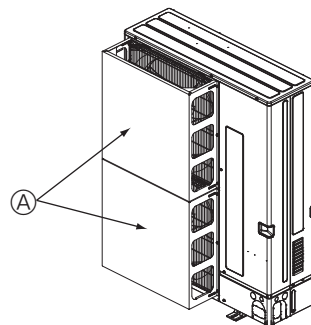
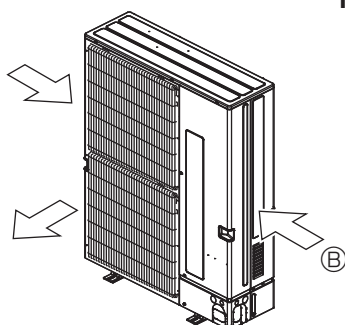

Fig. 2-4
Fig. 2-5
- ② Install an optional air guide if the unit is installed in a location where strong winds from a typhoon, etc. may directly enter the air outlet. (Fig. 2-4)
- ④ Air guide
- ③ Position the unit so that the air outlet blows perpendicularly to the seasonal wind direction, if possible. (Fig. 2-5)
- ④ Wind direction